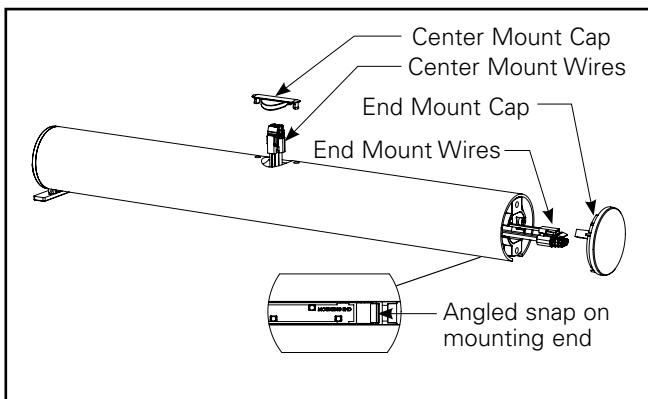
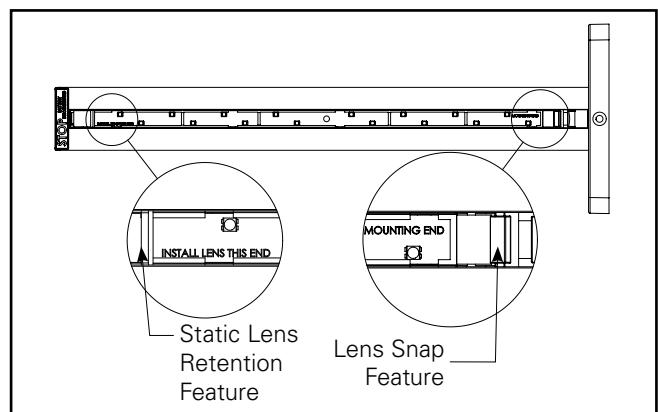

Figure 2.
Figure 6.
- Determine the intended mounting method, this will dictate which location you will pull the internal wire harness out of. (See Figure 2). If mounting using end-mount, remove the End Mount Cap from the mounting end of the cylinder and pull the wires out of the housing at this location. (You can identify the mounting end of the cylinder by examining the PCBA and locating the text "Mounting End." See Figure 6) If you are ceiling or wall mounting remove the Center Mount Cap and pull the wires out of the housing at this location. Ensure you are choosing the correct set of wires before pulling them out of the housing as reversing this process can be difficult.
1. Open the box containing your ARCEL Housing and remove the unit and its accessory bag. Review the parts in the accessory bag. Remove the Center Mount Cap and pull out the Wire Harness (See Figure 2).
1. Open the box containing your ARCEL Housing and remove the unit and its accessory bag. Review the parts in the accessory bag. Remove the Center Mount Cap and partially pull the ARCEL Wire Harness out of the center hole (See Figure 2). Connect the ARCEL Wire Harness to the AC Power Wire Harness. Minimize the amount of excess wire coming out of the top of the housing.
- Use the attached Chevron guides to install chevrons as desired. Install the lens into the housing. Orient the lens facing the appropriate direction and insert the corner of lens into the housing starting on the Lens Insertion End. This can be identified by the yellow sticker or Red EZ-Key (SD Versions) at the end of the unit as well as by the text on the LED PCBA that reads "Install Lens This End" Tilt the other end of the lens upwards until the assembly snaps securely into place (See Figure 6 and 9).